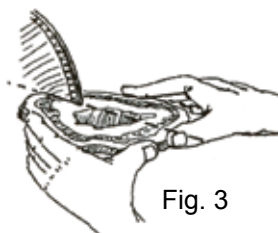

Fig. 3
- Cut slowly using a straight forward motion (Fig. 3). Do not force stone into blade or apply side pressure.